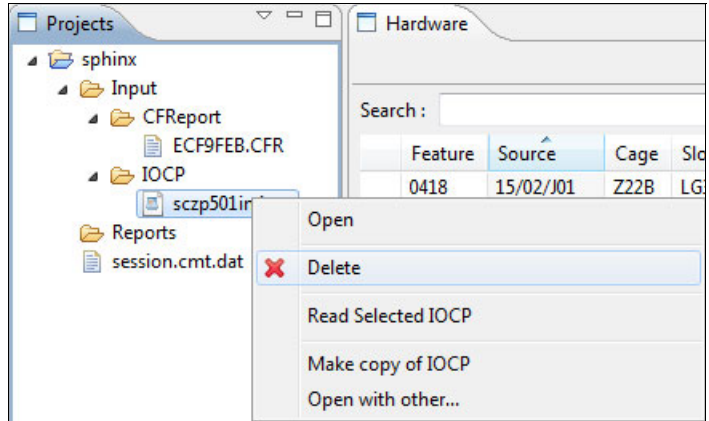

Figure 7-23 CMT - Reading the selected IOCP
3. In the Projects pane, under the Input tab, expand the IOCP tab, right-click the IOCP file, and select **Read Selected IOCP** (Figure 7-23).